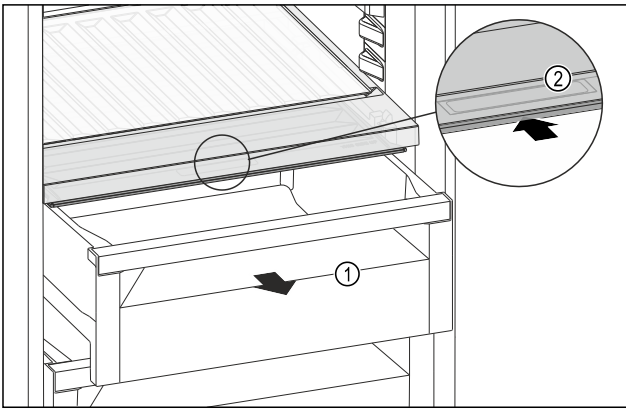

Fig. 158
- ▶ Pull out the drawer Fig. 158 (1).
- ▶ Grasp the recessed grip Fig. 158 (2) on the compartment lid and push the compartment lid backwards at the same time.